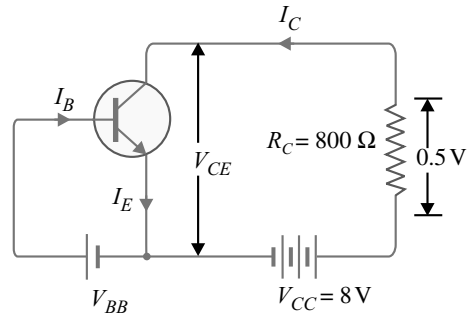

Fig. 6.22
**Example 6.15.** A transistor is connected in common emitter (CE) configuration in which collector supply is 8V and the voltage drop across resistance  $R_C$  connected in the collector circuit is 0.5 V. The value of  $R_C = 800 \Omega$ . If  $\alpha = 0.96$ , determine :
**Solution.** Fig. 6.22 shows the required common emitter connection with various values.